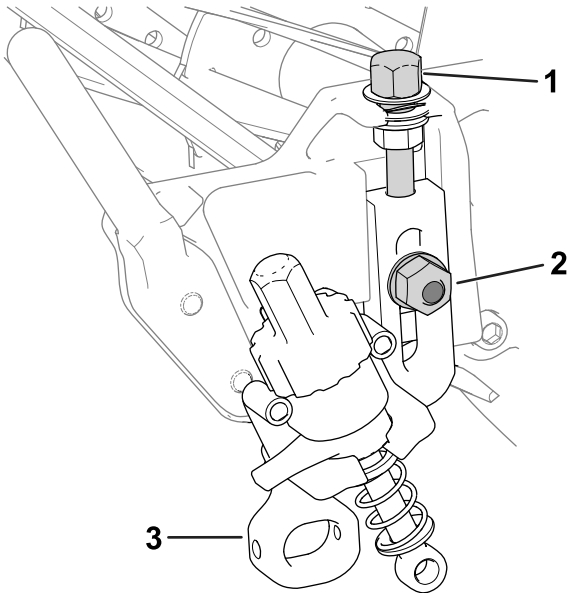

Figure 11
1. Thread the previously removed height-of-cut adjusting screws into the top of the height-of-cut assemblies (Figure 11).
2. Install the height-of-cut assemblies to the cutting unit side plates using the previously removed plow bolts, flange nuts, and special washers (Figure 11).